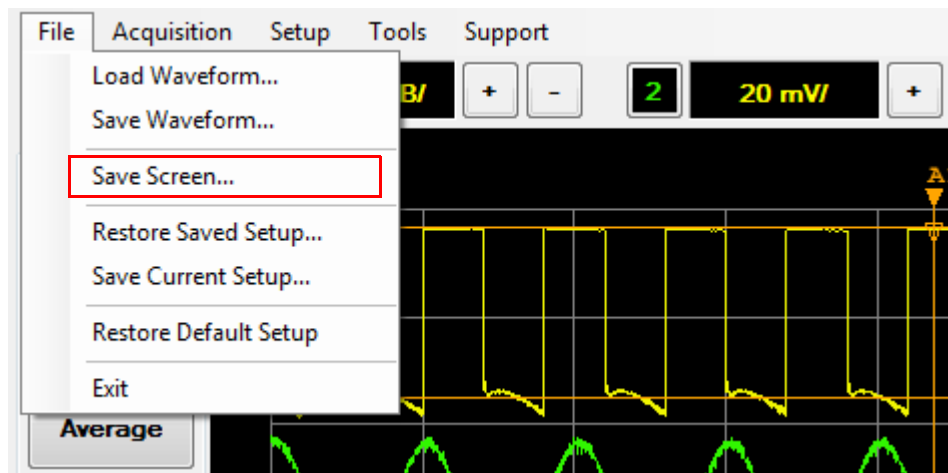

Figure 2-98 Save Screen... selection in the File menu
- 1 Select **File > Save Screen...** on the toolbar to save the screen image as shown in Figure 2-98.